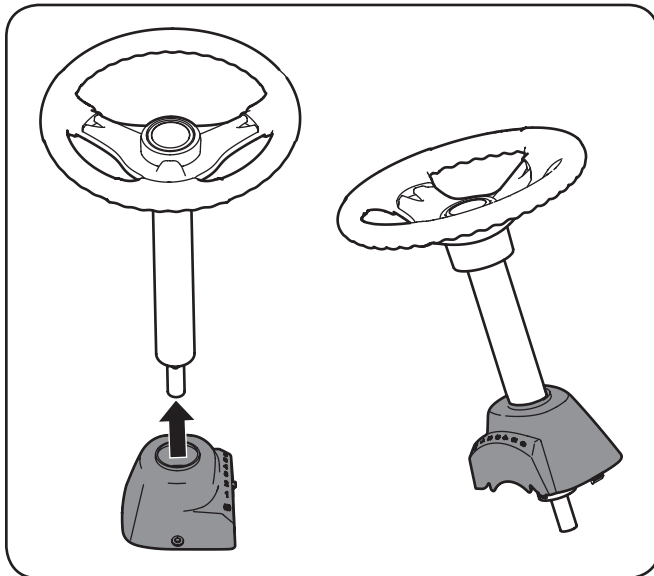

Figure 3-1
1. Slide the pedestal cap onto the steering shaft so that when the steering shaft is installed on the tractor, the pedestal cap will be upright as shown in Figure 3-1.